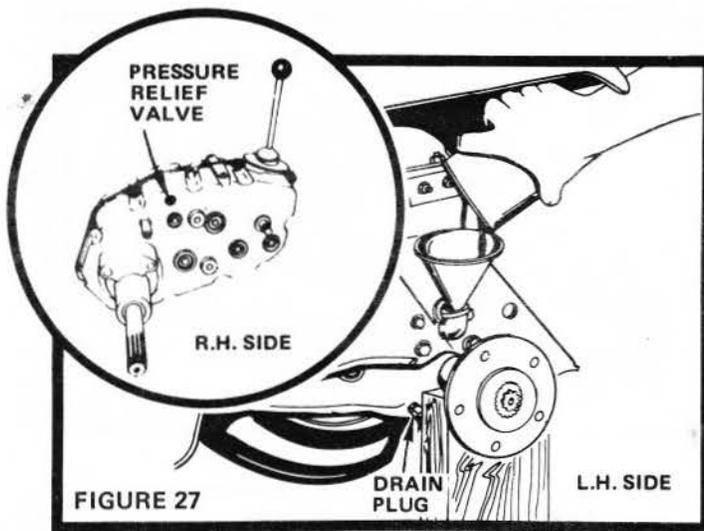

FIGURE 27
- Check Pressure Relief Valve (Fig. 27 - Inset) located on R.H. side near top. It should spring completely closed when pulled out by hand and released.
- Drain Transaxle Oil by removing Drain Plug (Fig. 27) and catching Oil in suitable container. Replace Drain Plug.
- Refill Transaxle with S.A.E. 30 (SC, SD or SE) Motor Oil. Capacity is 5 quarts. Pressure Relief Valve (R.H. side of Transaxle) (Fig. 27 - Inset) may be held open to allow Transaxle to fill more quickly.